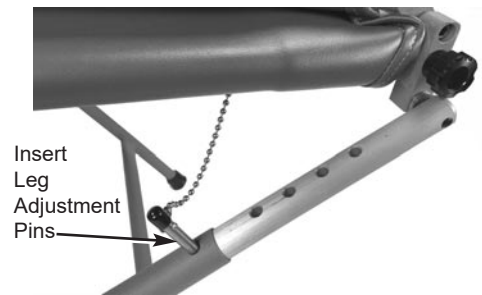

Figure 2 - Leg Adjustment Pin Placement
3. Standing in front of the chair, put your toe on one of the front chair legs and lift up on the backrest and front seat portion. Raise chair seat to desired height. Lock in place by inserting leg adjustment pins through chair leg tube and into adjustment link on the right and left side of the chair. (Fig. 2)
1. **Seat Height-** The chair seat height can be set at any of the five preset settings. Without a patient in the chair, put your toe on one of the front chair legs and lift up slightly on the chair seat. While lifting and holding seat, remove the leg adjustment pin from the right and left side. Align link with tube hole in any of the five positions and lock in place by inserting the pin and chain assembly. (see Fig. 2)